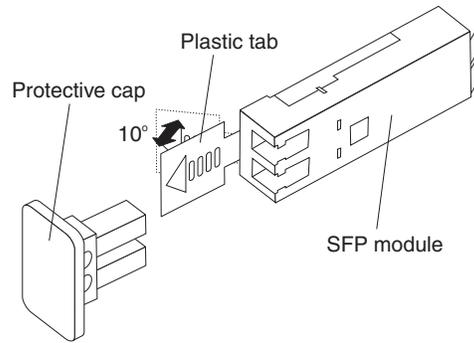

Figure 47. Unlocking the SFP module latch - plastic variety
- For SFP modules that contain plastic tabs, unlock the SFP module latch by pulling the plastic tab outward 10°, as shown in Figure 47 on page 57.